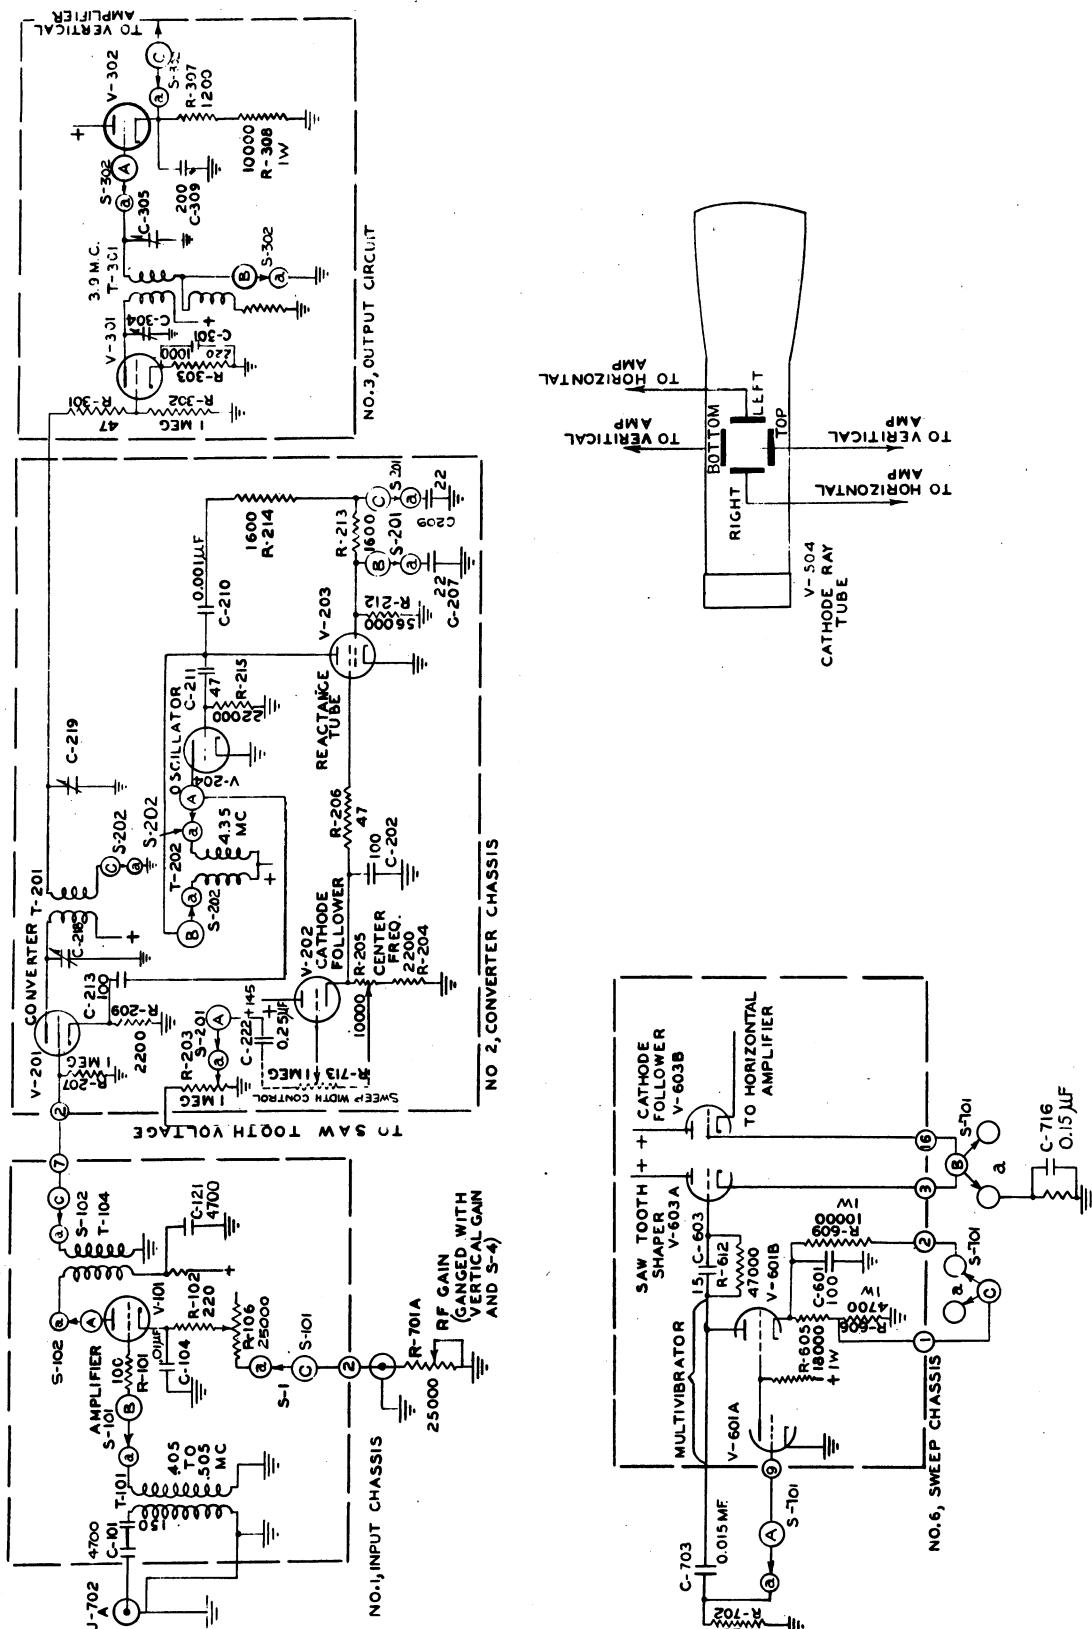

Figure 4-10. Simplified Schematic for Channel A
(1) This chassis includes a frequency modulated oscillator, a reactance tube, an isolating stage (cathode follower), and a converter tube. The oscillator has three tank circuits, one for each channel A, B, and C. (See fig. 4-10.) They are contained in one shield can (T-202). Another can (T-201) contains the i-f input transformer to chassis No. 3 and is located in the output of the converter tube. (See fig. 4-13.)
(2) A sawtooth voltage from the cathode ray tube sweep circuit is introduced into the cathode follower. The output of this cathode follower is fed to the screen